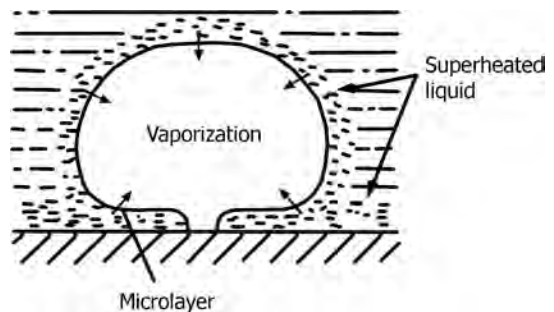

FIGURE 9.14 Vaporization.
- *Vaporization* Illustrated in Figure 9.14. Heat is conducted into the thermal boundary layer and then to the bubble interface, where it is converted to latent heat. Macrovaporization occurs over the top of the bubble while microvaporization occurs underneath the bubble across the thin liquid layer trapped between the bubble and the surface, the latter often referred to as *micro-layer vaporization*. Since bubbles rise much faster than the liquid natural convection currents and contain a large quantity of energy due to the latent heat absorbed by the bubble making this heat transfer mechanism very efficient. The rate of latent heat transport depends on the volumetric flow of vapor away from the surface per unit area.